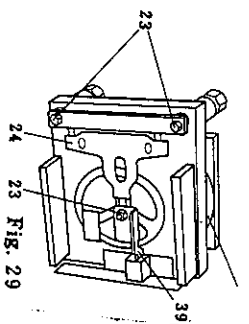

Fig. 29
Place MAGNET ASSY as shown in Fig. 29.
Lightly set (23) NUT shown by the arrow in Fig. 29. Do not forget (15) SPRING WASHER.